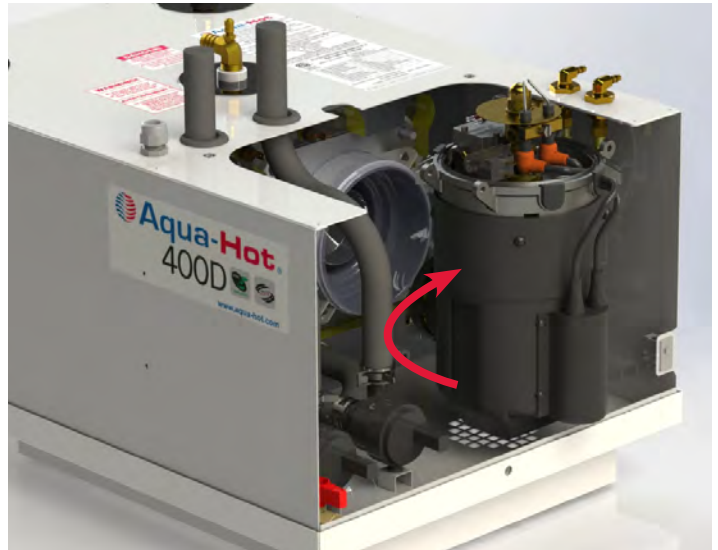

Figure 146
- Carefully pull the diesel burner away from the Aqua-Hot 4 - 5 inches before rotating the burner, then remove completely as shown in Figure 146.